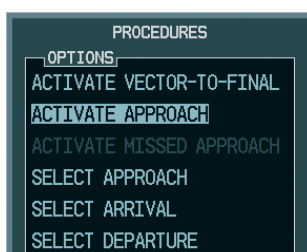

Figure 5-145 Manually Activate Approach
- Turn the large **FMS** Knob to highlight 'ACTIVATE APPROACH' as shown in Figure 5-145.